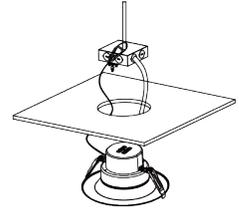

Fig. 8
5. Insert the pre-installed flexible conduit attached to fixture into the junction box and wire according to the above wiring diagram. Re-attach junction box cover when complete (Fig. 8).